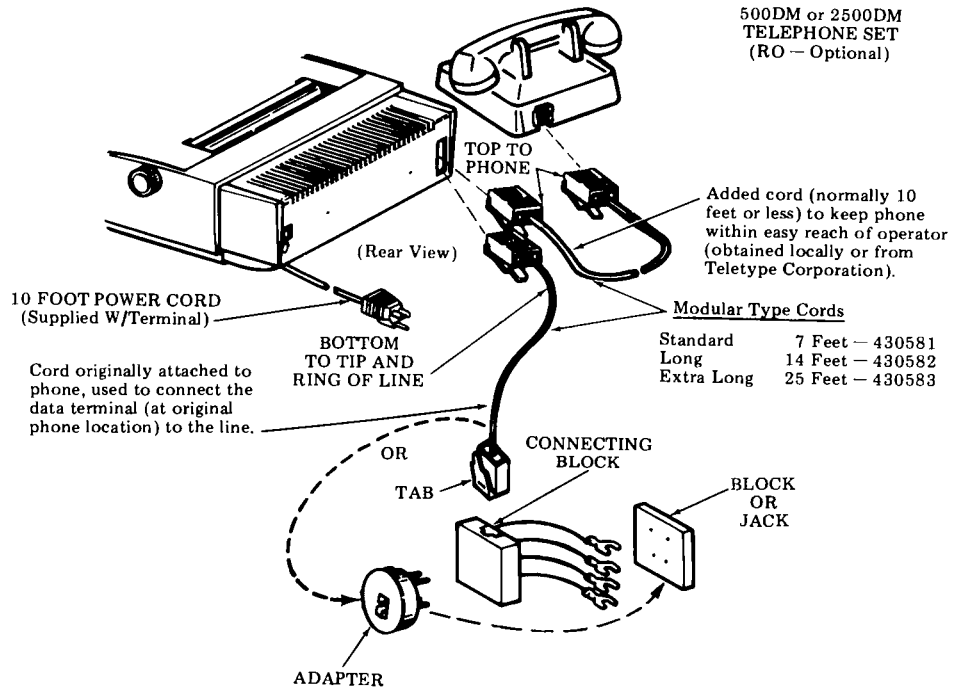

Fig. 4--Telephone Connection
3.08 Unplug the modular plug of the cord from the modular jack associated with the telephone specified on the service order (compress tab to release) and connect it to the lower connector marked LINE on the rear of the TDU accessible through the opening in the left rear of the bustle cover (Fig. 4). If telephone is not to be placed at original phone location, a